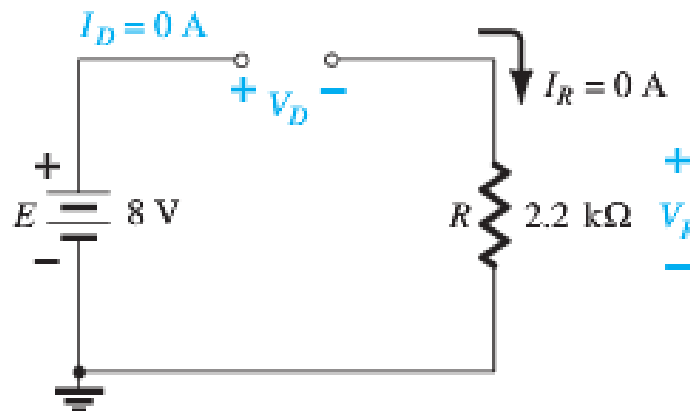

FIG. 2.14
Solution: Removing the diode, we find that the direction of I is opposite to the arrow in the diode symbol and the diode equivalent is the open circuit no matter which model is employed. The result is the network of Fig. 2.14, where $I_D = 0$ A due to the open circuit. Since $V_R = I_R R$, we have $V_R = (0)R = 0$ V. Applying Kirchhoff's voltage law around the closed loop yields